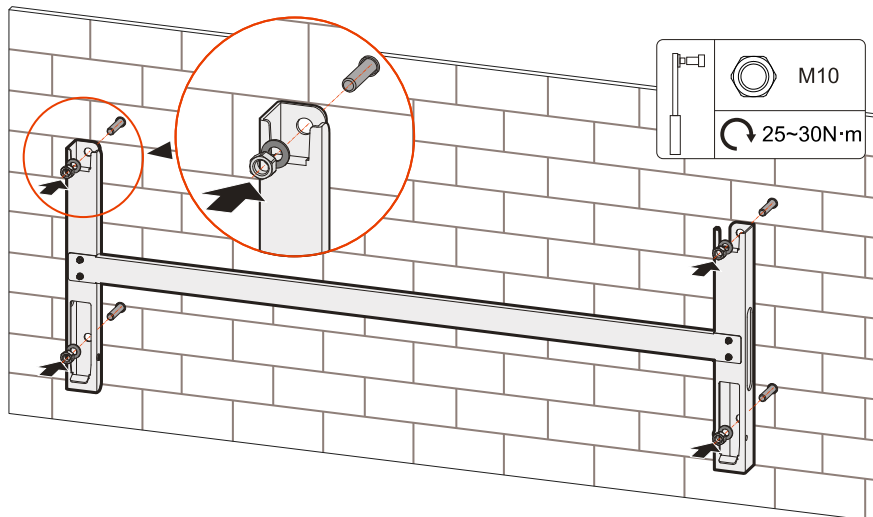

Figure3-23 Fix the installation holder
- Step 5 Install the installation holder. Fix the installation holder to the expansion bolts, put on flat washers, spring washers and nuts, and then tighten the nuts clockwise with a wrench, as shown in Figure3-23.